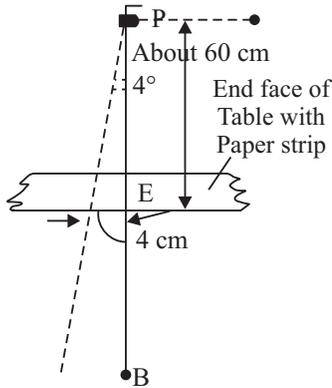

Fig. 4.3
- (v) Pull the bob to one side and release so that it oscillates with an amplitudes of less than  $4^\circ$  (Fig 4.3). If height of P above table is about 60 cm, then maximum displacement of thread from central mark is not more than about 4 cm.